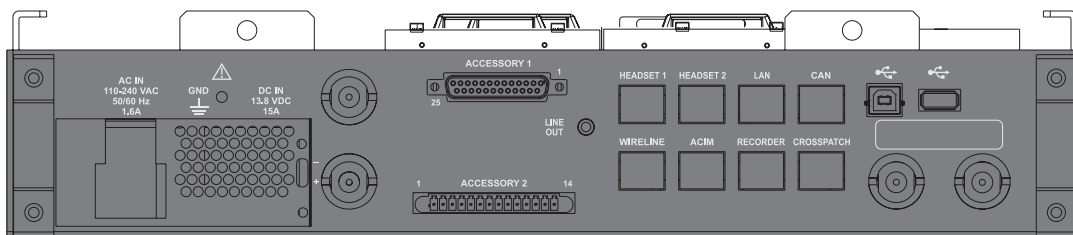

Figure 3-3. Rear Panel
The coaxial antenna cable connects to an N-type coaxial connector located on the rear panel of the station. See Figure 3-3.
3. Connect the female plug of the AC line cord supplied with the Consolette to the AC input power connector on the rear panel of the Consolette. See Figure 3-3., "Rear Panel," on page 3-3.
2. An external inline fuse is required when DC power is used. Connect the mobile power cable 3085059D05 with the inline 20 Amp fuse to the standard mobile radio connector on the rear of the Consolette marked "DC". See Figure 3-3, "Rear Panel," on page 3-3.